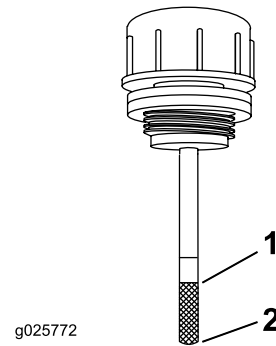

Figure 63
5. Clean the area around the dipstick of the hydraulic-system reservoir (Figure 63).
6. Remove the dipstick from the hydraulic reservoir (Figure 63).
8. Remove the dipstick and look at the end (Figure 63). If the fluid level is at the add mark, slowly pour only enough fluid into the hydraulic reservoir to raise the level to the full line.